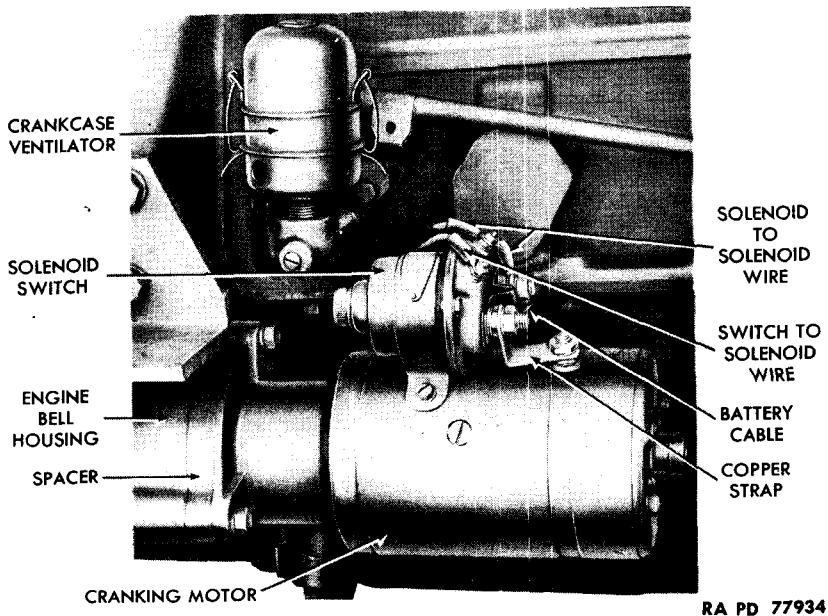

Figure 50 – Cranking Motor and Solenoid Installed
(1) **DESCRIPTION** (fig. 50). The conventional 12-volt cranking motor is located on the right side of the engine between engine and frame side rail, and is accessible through the right-hand splash shield opening and from under the truck. A cranking motor drive, attached to the end of armature shaft and enclosed in a cast iron housing, engages the flywheel ring gear to crank the engine. Drive housing and cranking motor are secured to each other by the main frame screws.
(2) DISCONNECT SOLENOID SWITCH FROM CRANKING MOTOR (fig. 50) (par. 90 b (3)).
(3) DETACH CRANKING MOTOR FROM ENGINE (fig. 50). Remove the three cap screws and lock washers which attach cranking motor to engine bell housing. Two screws can be reached through splash shield opening and one from under truck. Lift cranking motor and spacer from engine and from under truck.
(1) ATTACH CRANKING MOTOR TO ENGINE (fig. 50). From under truck, place spacer and cranking motor in position on engine bell housing. Install three cap screws and lock washers which secure motor to engine.
(2) CONNECT SOLENOID SWITCH TO CRANKING MOTOR (fig. 50) (par. 90 c (1)).
(3) TEST INSTALLATION. Push cranking switch, and check cranking motor operation.
(1) **DESCRIPTION** (fig. 50). This solenoid switch is located directly on top of cranking motor, and can be reached by removing right-hand floor board. This switch, which provides a direct battery to cranking motor circuit, is similar to the conventional type relay or magnetic switch. When cranking motor switch is depressed, a coil within solenoid switch is energized. This coil produces a magnetic field which closes the solenoid's magnetic contacts. The contacts are heavy-duty high arc resisting, to withstand heavy current load.
(2) TABULATED DATA.
(2) **DISCONNECT WIRES FROM SWITCH** (fig. 50). Disconnect small red wire coming from harness, from switch top right terminal. Disconnect large red wire from harness and small red wire coming from switch front left terminal, from switch top left terminal. Remove battery cable and small red wire which goes to switch top left terminal, from switch front left terminal. Disconnect flat copper strap which goes to cranking motor terminal from switch front right terminal.
(3) **DETACH SWITCH FROM CRANKING MOTOR** (fig. 50). Remove the two screws and lock washers which secure switch to cranking motor, and lift switch from motor.
(1) **ATTACH SWITCH TO CRANKING MOTOR** (fig. 50). Position switch on cranking motor, and install the two lock washers and screws.
(2) **CONNECT WIRES** (fig. 50). On switch front right terminal, install flat copper strap from cranking motor terminal, lock washers, and nut. On switch front left terminal, install battery cable, small red wire which goes to switch top left terminal, lock washer, and nut. On switch top left terminal, install large red wire from harness and small red wire from switch front left terminal, lock washer, and nut. On